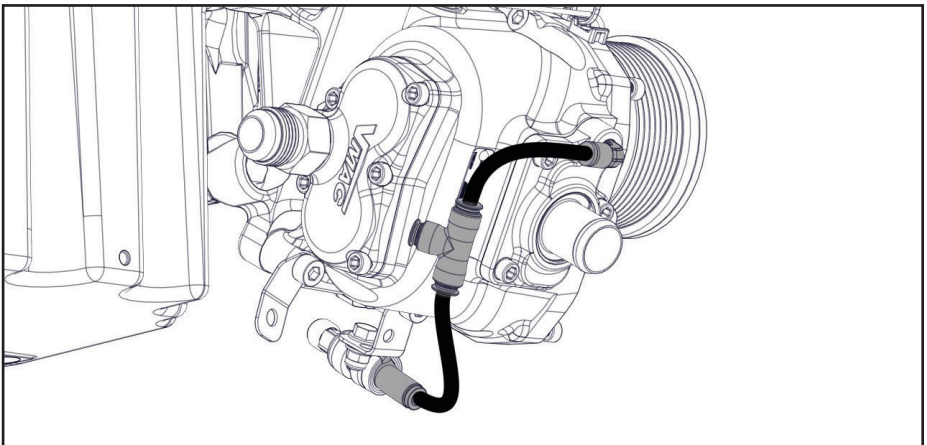

Figure 39 — Connect PTFE tubes
- From the 24 in spool of 1/4 in PTFE tubing, connect the scavenge tube to the compressor, pressure sensor assembly, and Union Tee (Figure 39).